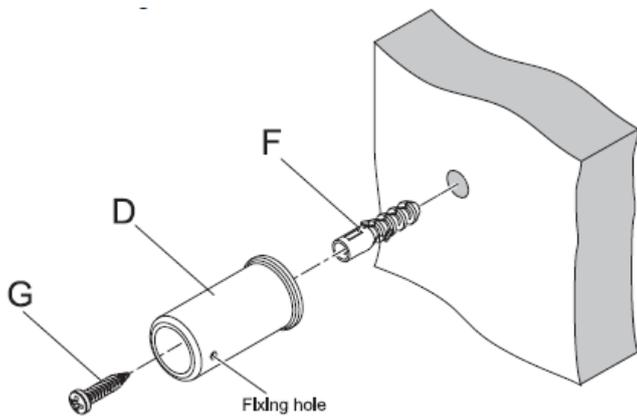

Fig. 4
2. Drill and plug (x) the wall to suit. Fix the mounting brackets to the wall using the screws provided (y). do not tighten the brackets at this stage to allow adjustments to be made - see Fig. 4.